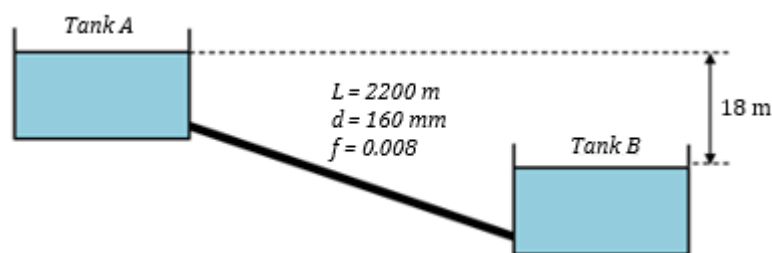

Figure 1
- A large water tank a supplying water into a tank B through a pipe length of 2200 m and a diameter of 160 mm as shown in figure 1. The height difference of the water level in both tanks is 18 m. Considering all of the head losses, calculate the water flowrate in the pipe if friction coefficient, $f = 0.008$.